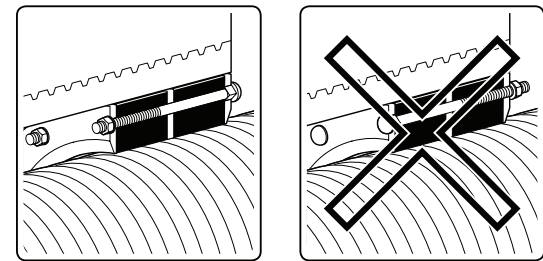

Figure 4-72: Correct vs. Incorrect Wall Seal Installations
- To ensure no damage to the Ecoflex jacket, tighten the nuts of the Uponor Wall Seal until the rubber seal wraps around the Ecoflex jacket pipe and the core hole, or if used, the Wall Sleeve. **Figure 4-72** illustrates the correct way vs. the incorrect way of installing the Wall Seal.